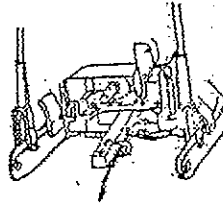

FIGURE 2
2. Run the chain through a clevis pin bolted on the tractor drawbar, then wrap the chain around a supporting member of the tractor and hook as shown in Figure 2.